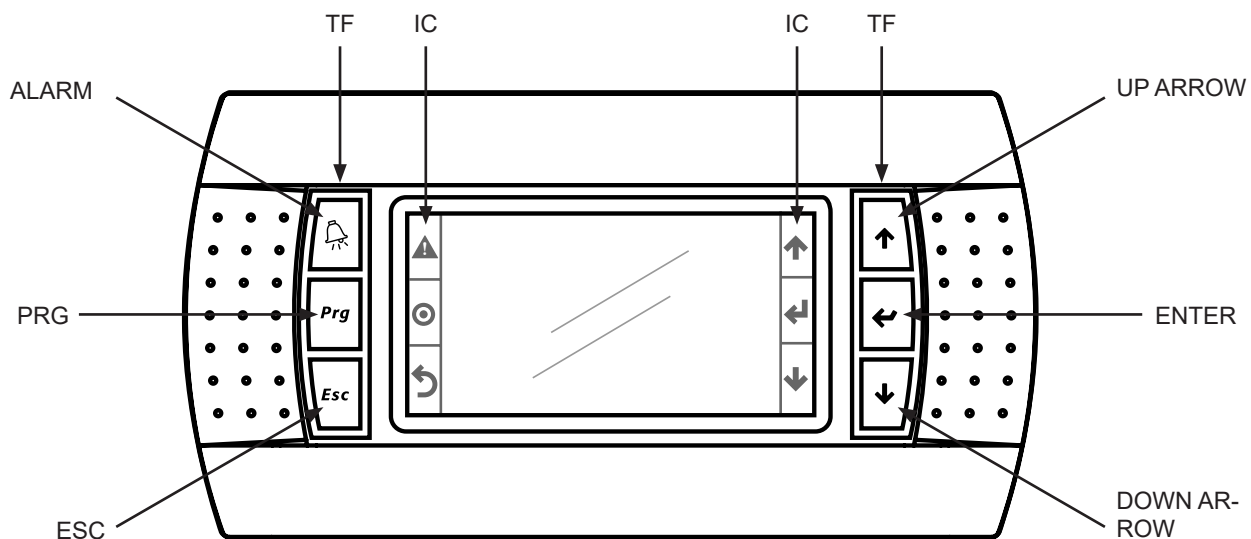

Figure 15
9.10 Remote panel (A2) consists of a central display and 3+3 physical side keys: to the left of the display are the "ALARM", "PRG", "ESC" keys, to the right the "UP ARROW", "ENTER", "DOWN ARROW" keys. See Figure 15. The function of the physical TF keys is made explicit by the corresponding IC icons on the display.